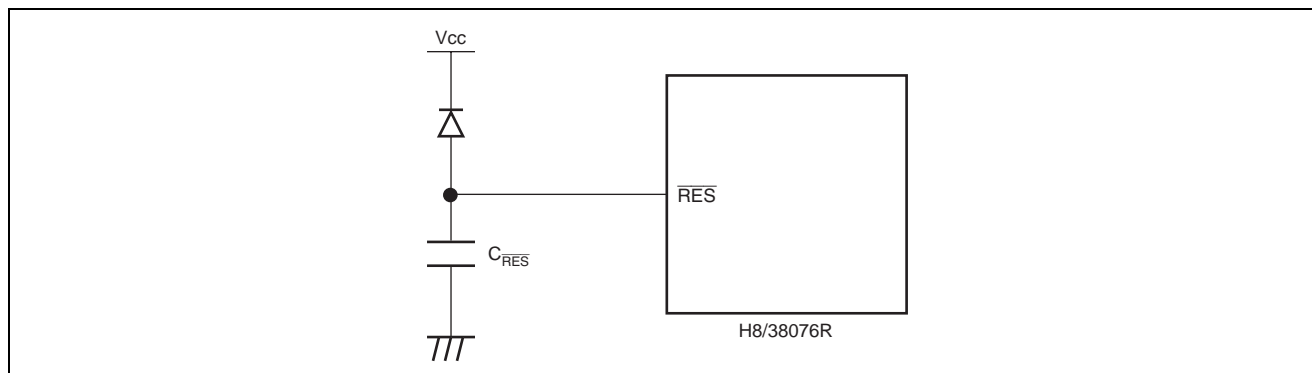

Figure 1 Usage Example of Power-On Reset Circuit
- An example of usage of the internal power-on reset circuit is illustrated in figure 1.